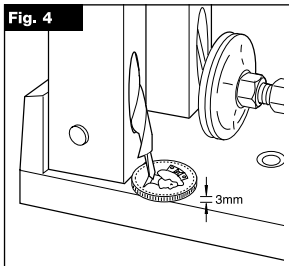

Fig. 4a
- Setting collar depth - **(Fig. 4a)**